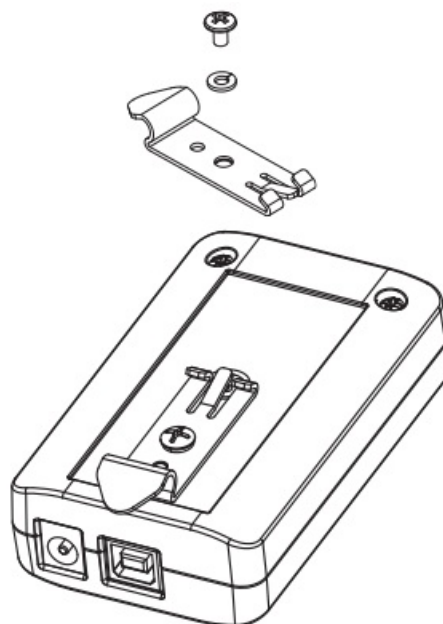

Figure 1
1. Use the Guide Peg at the bottom of the USB 2.0 Galvanic Isolator to align the DIN Rail Mounting Kit into its correct position. Use a Phillips Head Screwdriver to install the self-tapping screw and secure the DIN Rail Mounting Kit. (Figure 1)